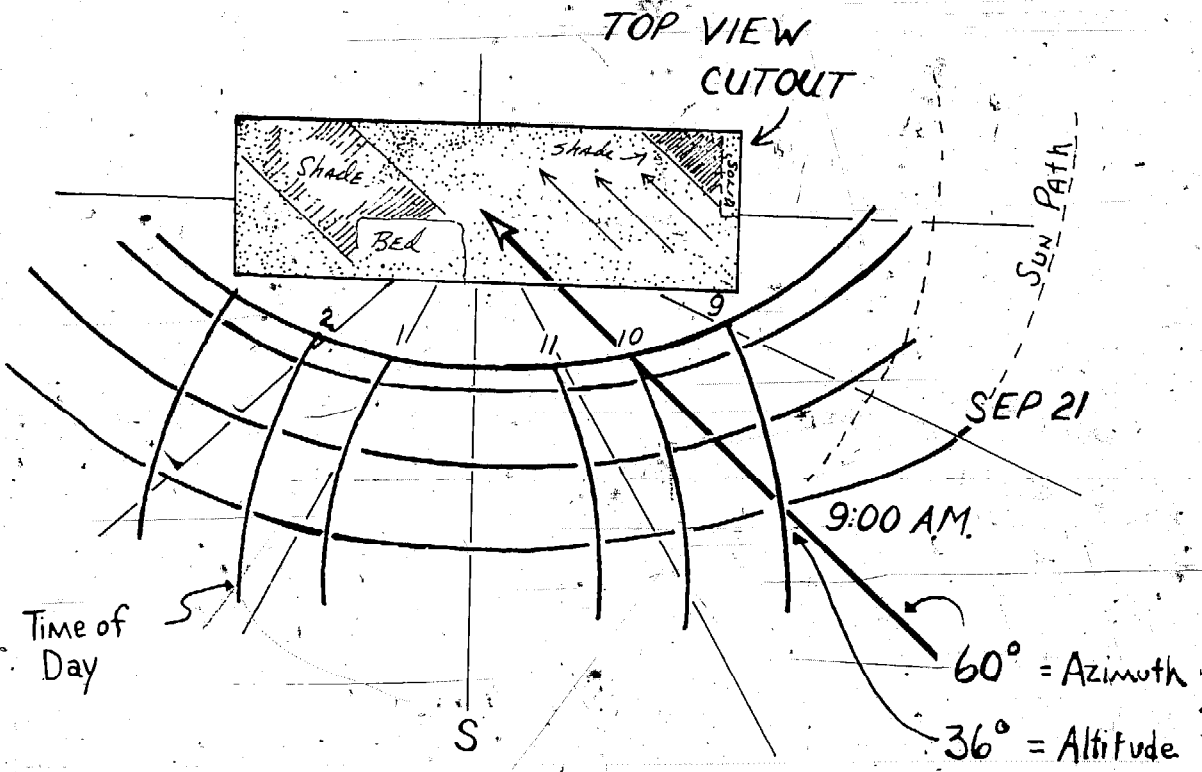

FIGURE 100
- 1) Find the chart nearest your latitude (Figures 100 and 101 are for 36° north latitude.)
5) The first objective is to examine the duration of sunlight the greenhouse will receive at various times of year. Choose a month and follow its sun path, noting the number of hours the model is receiving direct sunlight. Solid walls and obstructions will shade the incoming light at certain times of day (see Figure 100). Observing the hours of shading will allow you to design clear and solid walls to best suit your particular location.